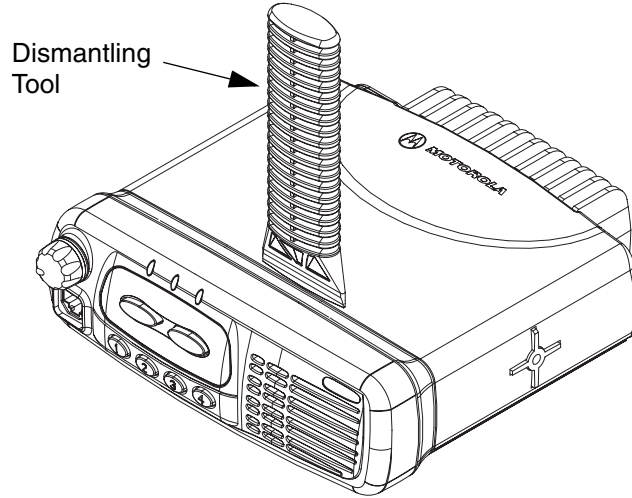

Figure 2-1: Typical Control Head Removal
1. Insert the dismantling tool in the groove between the control head and the radio assembly as shown in Figure 2-1, on page 2-19.